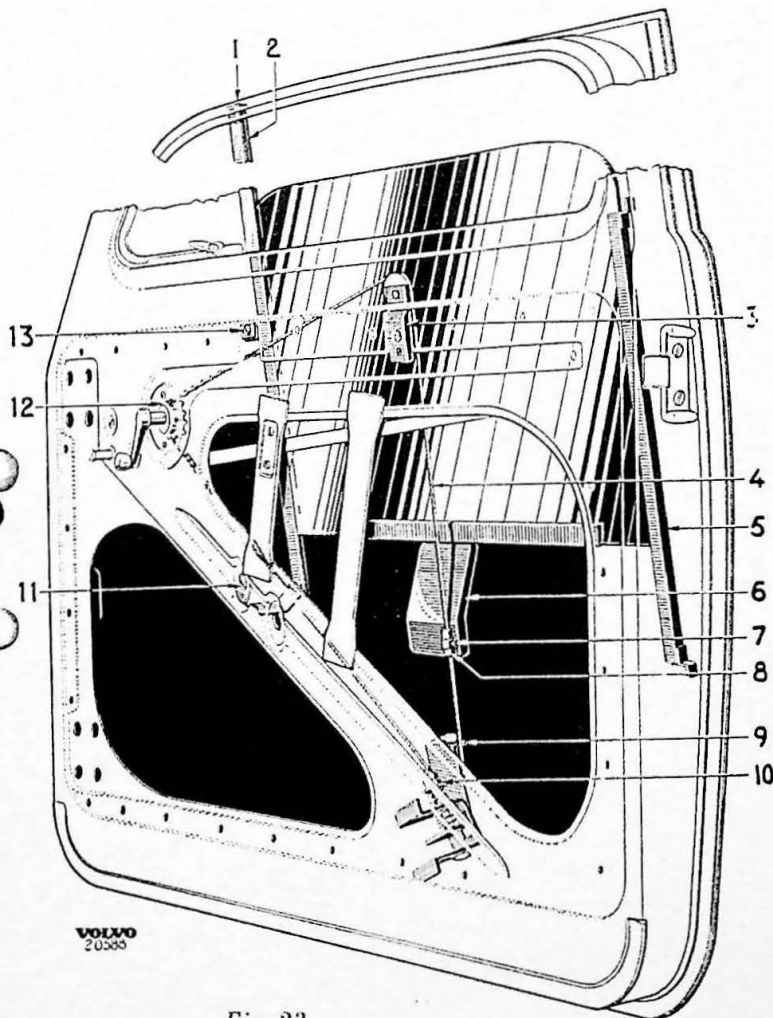

Fig. 23.
5. Remove the upper screw (1, Fig. 23) and the central screw (13) which retain the forward front run channel (2).
6. Remove connector sleeve (7) which retains connector to regulator channel (6).
7. Release load on the tension device (9) by loosening the nuts (10) to the tension screw on the lower roller. Remove the wire and chain.
8. The upper roller (3), the lower roller with tension device (9) and the window regulator cog (12) as well as the front run channels are removed if required.